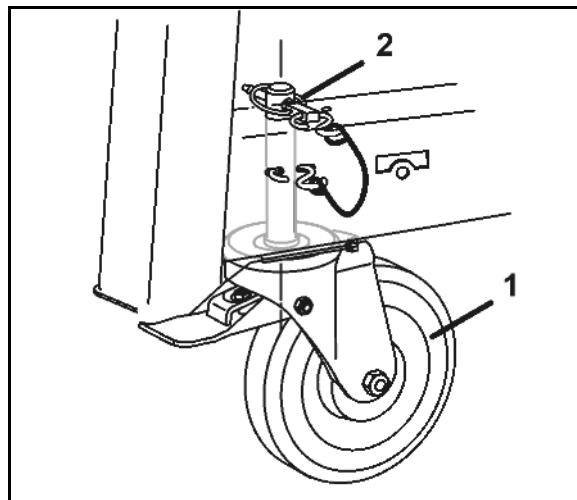

Fig. 43
2. Mount the outlet chute (Fig. 43/1) using the fastening screws (Fig. 43/2).